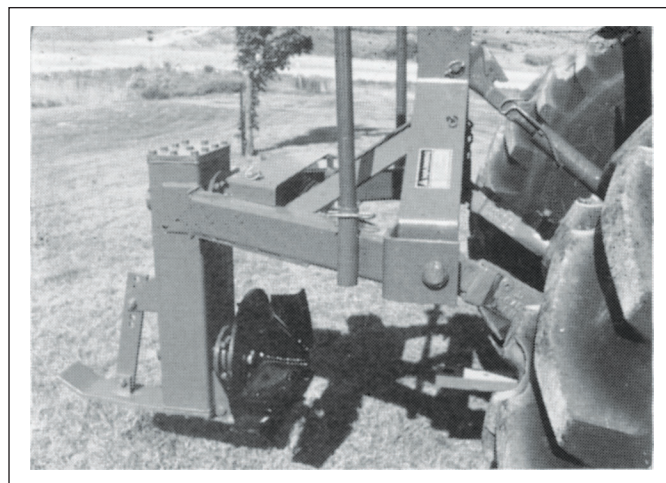

Figure 4-1: D5P/D10P Tractor Attachment
- Both the D5P18A and D10P18A Power Ditchers are designed for use on a Category II or III 3-PT Linkage or a Category II or III Quick Coupler. *See Figure 4-1.*